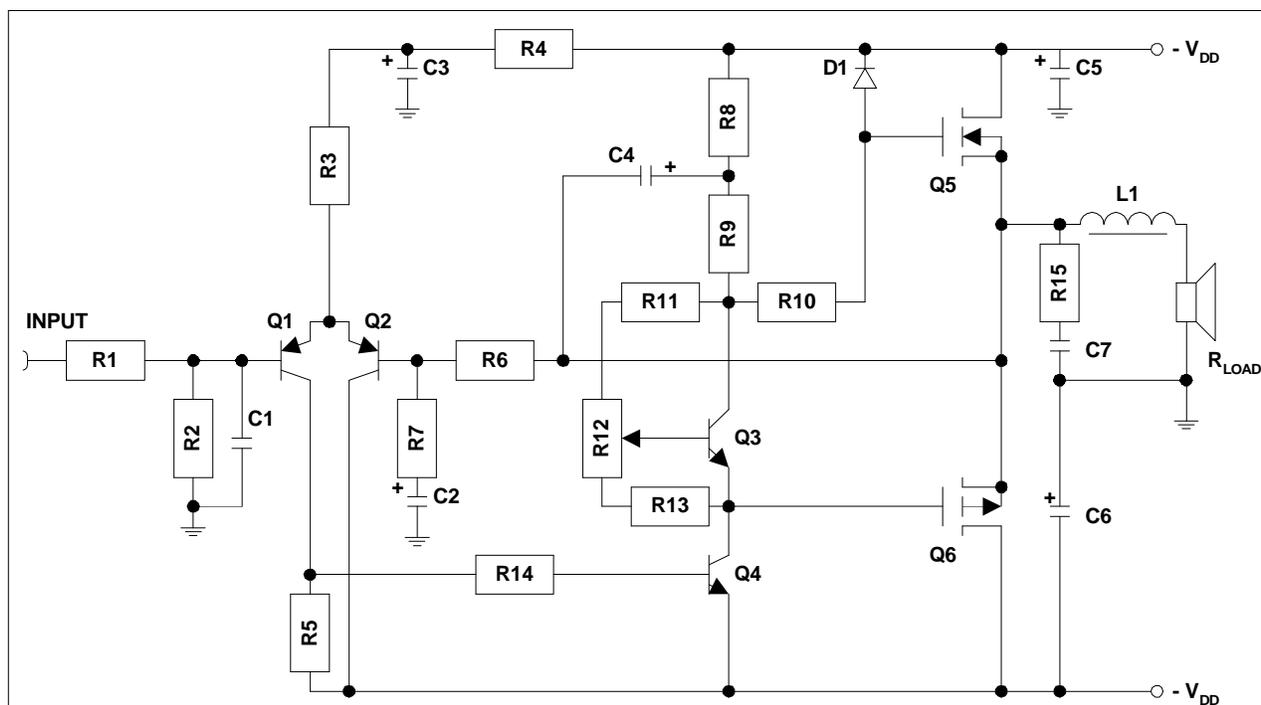
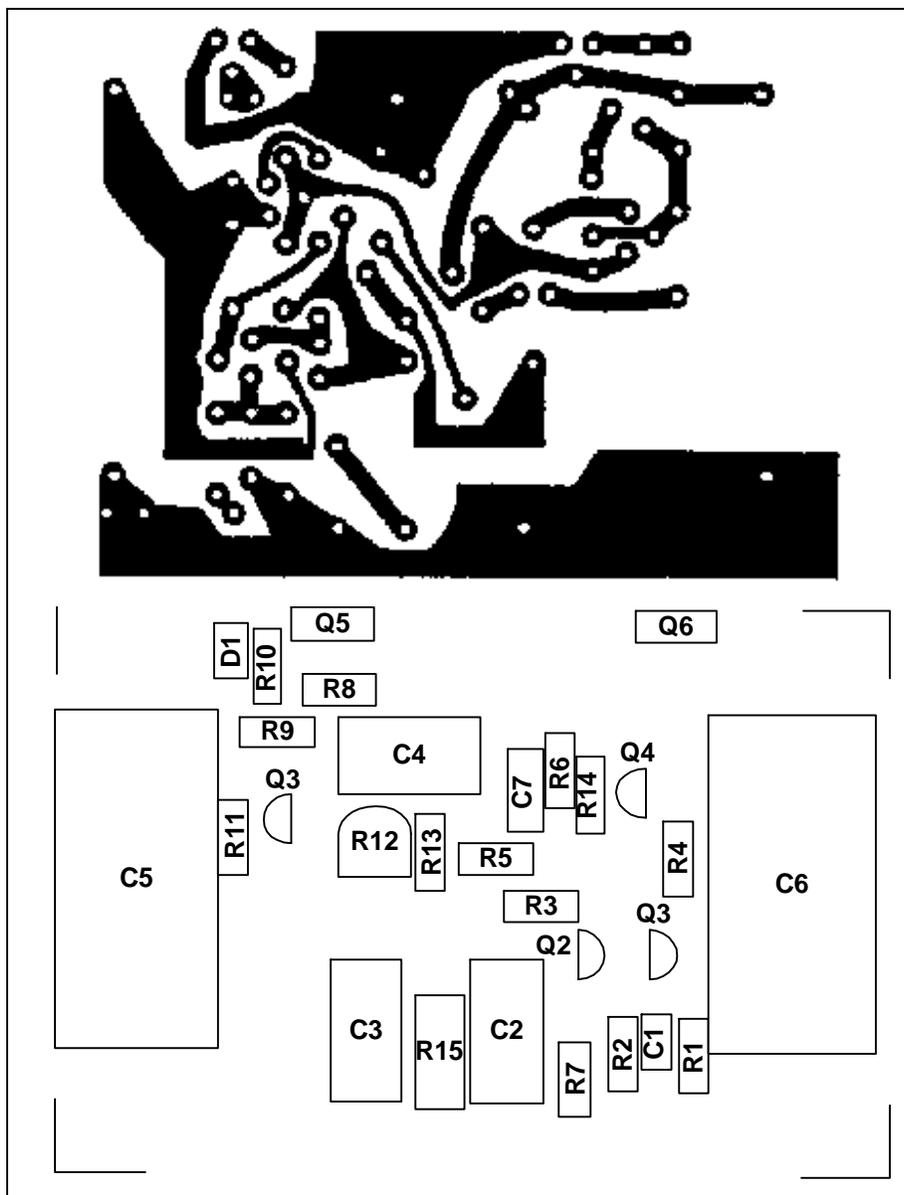
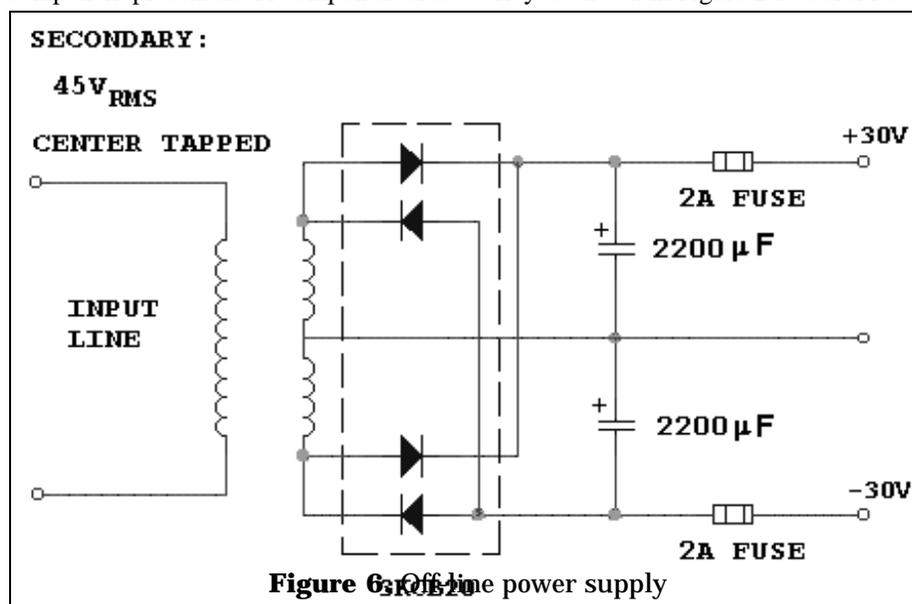

Figure 1. Class AB Amplifier Circuit Diagram
Figure 2. Amplifier Printed Circuit Board Layout
Figure 6. Off-line power supply
The amplifier circuit diagram is shown in Figure 1, and the components listing in Table 1. Split power supply rails ($\pm V_{DD}$) are used, giving improved rejection of power supply ripple and allowing the load, R_{LOAD} , to be direct coupled. The output devices Q_5 , Q_6 , operate in source follower configuration. This offers a twofold advantage; a) the possibility of oscillation in the power output stage is reduced as the voltage gain is less than unity and b) signal feedback through the heatsink on which the devices are assembled is eliminated as the drain terminal, which is electrically connected to the tab on the TO220 package, is at dc voltage.
Figure 2 shows a printed circuit layout which can be used for the circuit shown in Figure 1. The preceding design rules have been followed.
(d) *Quiescent Operating:* The dependence of the quiescent current in the output stage and of the offset voltage on power supply voltage are illustrated in Table 2. The quiescent current is set by first adjusting the potentiometer, R₁₂, for minimum offset voltage-turned fully anticlockwise if the pcb layout in Figure 2 is used - and applying the power supply voltage, the positive
A simple line derived power suitable for the class AB amplifier is illustrated in Figure 6. The $\pm 30V$ supplies are taken from the centertapped secondary of the line transformer. The $2200\mu F$ decoupling capacitors, (Figure 1) which should be mounted as close as possible to the amplifier output stage, reduce the supply frequency ripple to 5.5V pk-pk at full load.
It is unlikely that any experienced experimenter will have difficulty in achieving satisfactory results when building an amplifier to this design. The printed circuit board shown in Figure 2 is intended to assist in this respect. The major problems anticipated are those associated with the faulty assembly of components and damage to the HEXFET Power MOSFETs through handling or circuit oscillation.
1. When assembling the printed circuit board, mount the passive components first, ensuring the correct polarity of electrolytic capacitors. Then solder in the transistors $Q_1 - Q_4$ checking for correct pin identification. Finally, mount the HEXFET Power MOSFETs, avoiding static discharge by shorting the pins together to ground and using a grounded soldering iron. Check the assembled board for correct component placement. A component side overlay as shown in Figure 2 is useful for this purpose. Check the copper side of the board for solder bridges between tracks, and remove them. Check for dry solder joints visually and electrically using a resistance meter and rework, if necessary.
2. Power can now be applied to the amplifier and the output stage quiescent current set to between 50 and 100mA. The potentiometer, R_{12} is first adjusted for minimum offset (fully anticlockwise on the pcb layout in Figure 2). An ammeter is connected in series with the positive supply and selected to read 1A f.s.d. R_{12} is adjusted until the ammeter reads between 50mA and 100mA.